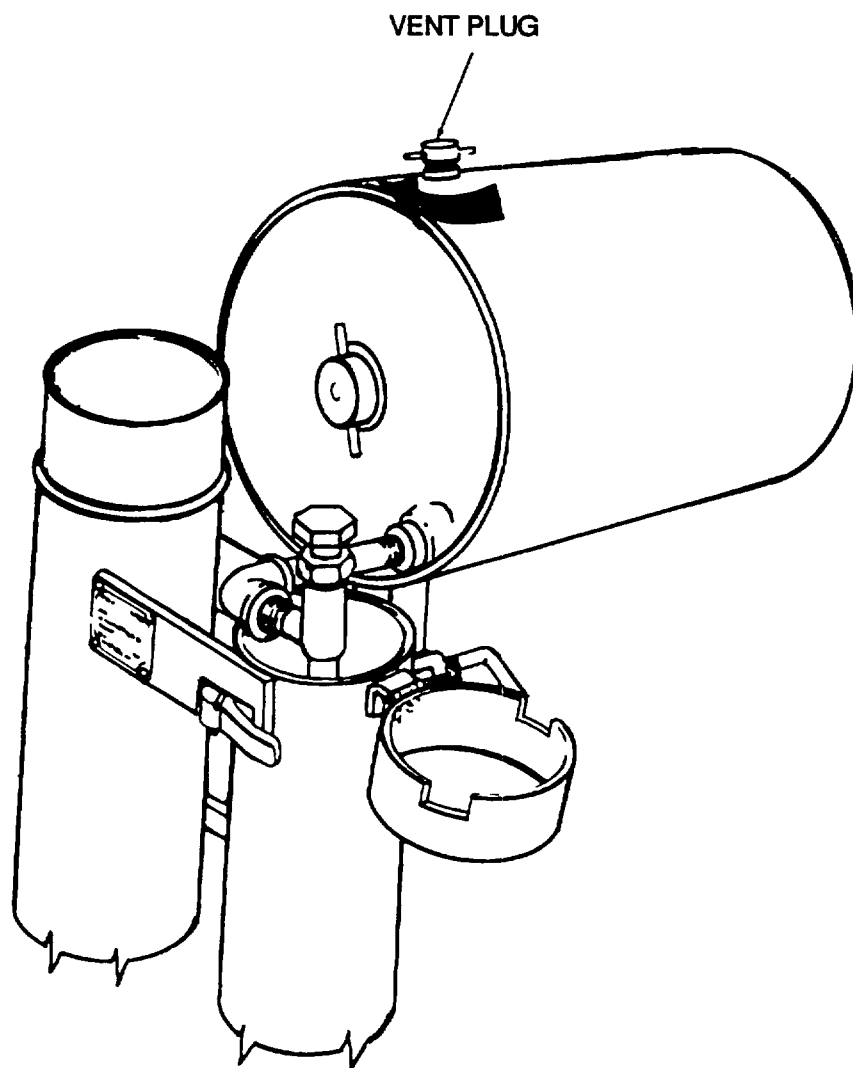

Figure 2-7. Shutting Down Heater (Closing Fuel Tank Vent Plug)
- (2) Close the fuel vent plug (Figure 2-7).